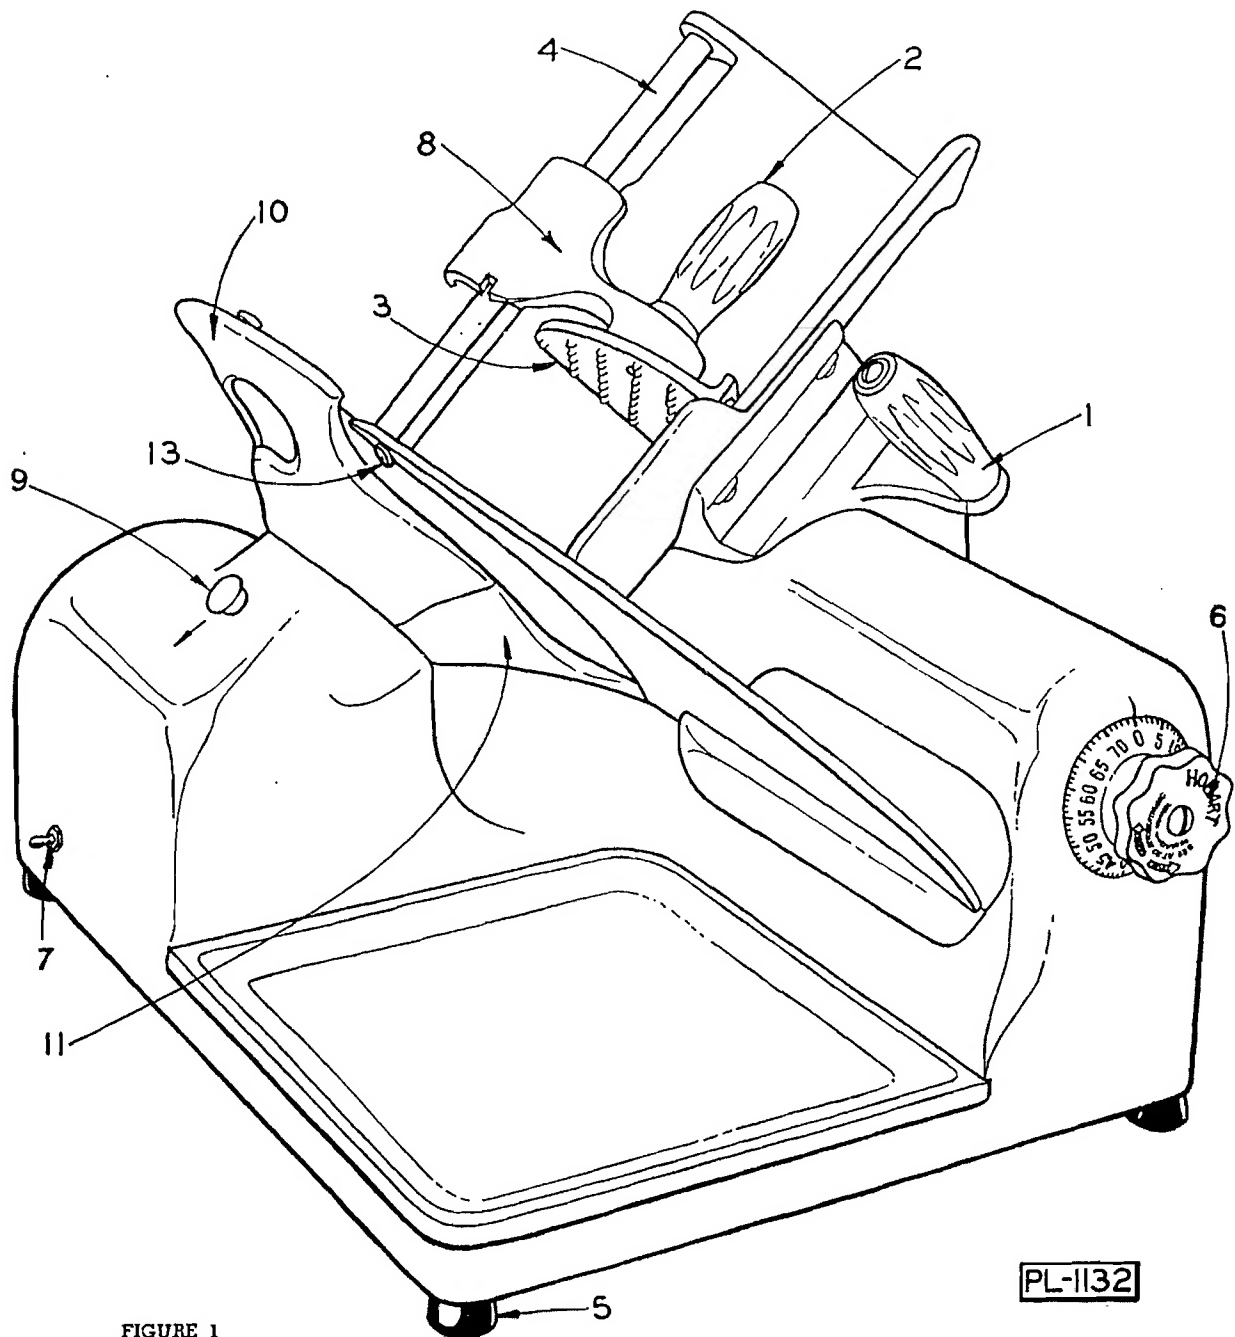

FIGURE 1
- 3 - Lock the sharpening attachment on the button 13, Fig. 1.